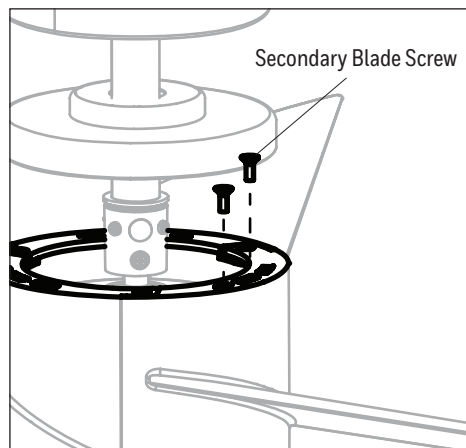

Figure 5.4
4. Align the holes in the top of the blades with the six holes in the top of the motor assembly. Secure with the secondary blade screws from hardware kit (Figure 5.4).